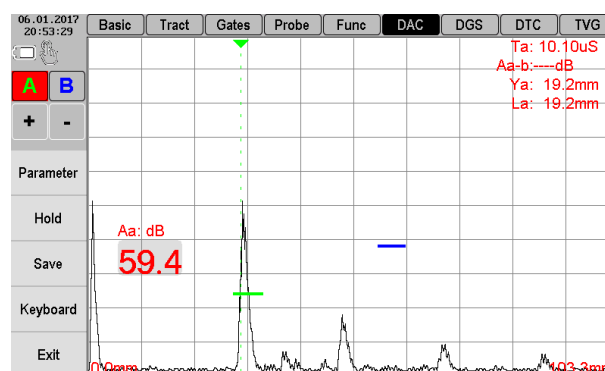

Figure 2.50 – Displaying of the signal amplitude value in A-gate - Aa
5. Turn on displaying of the signal amplitude value in A-gate - Aa (Figure 2.50).